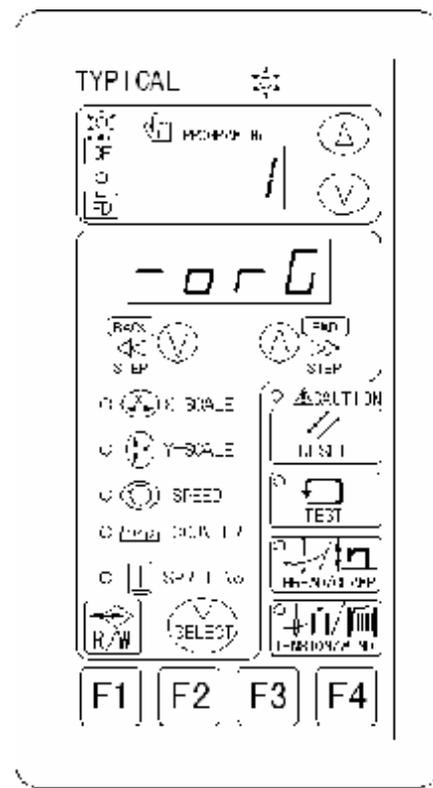

Fig. 6-27
1. Number 1/2/3 Pattern of the machine can be deleted in deletion interface; but operation panel is as shown in Fig. 6-27 in each deletion; number 1/2/3 pattern still exists when exiting pattern deletion.